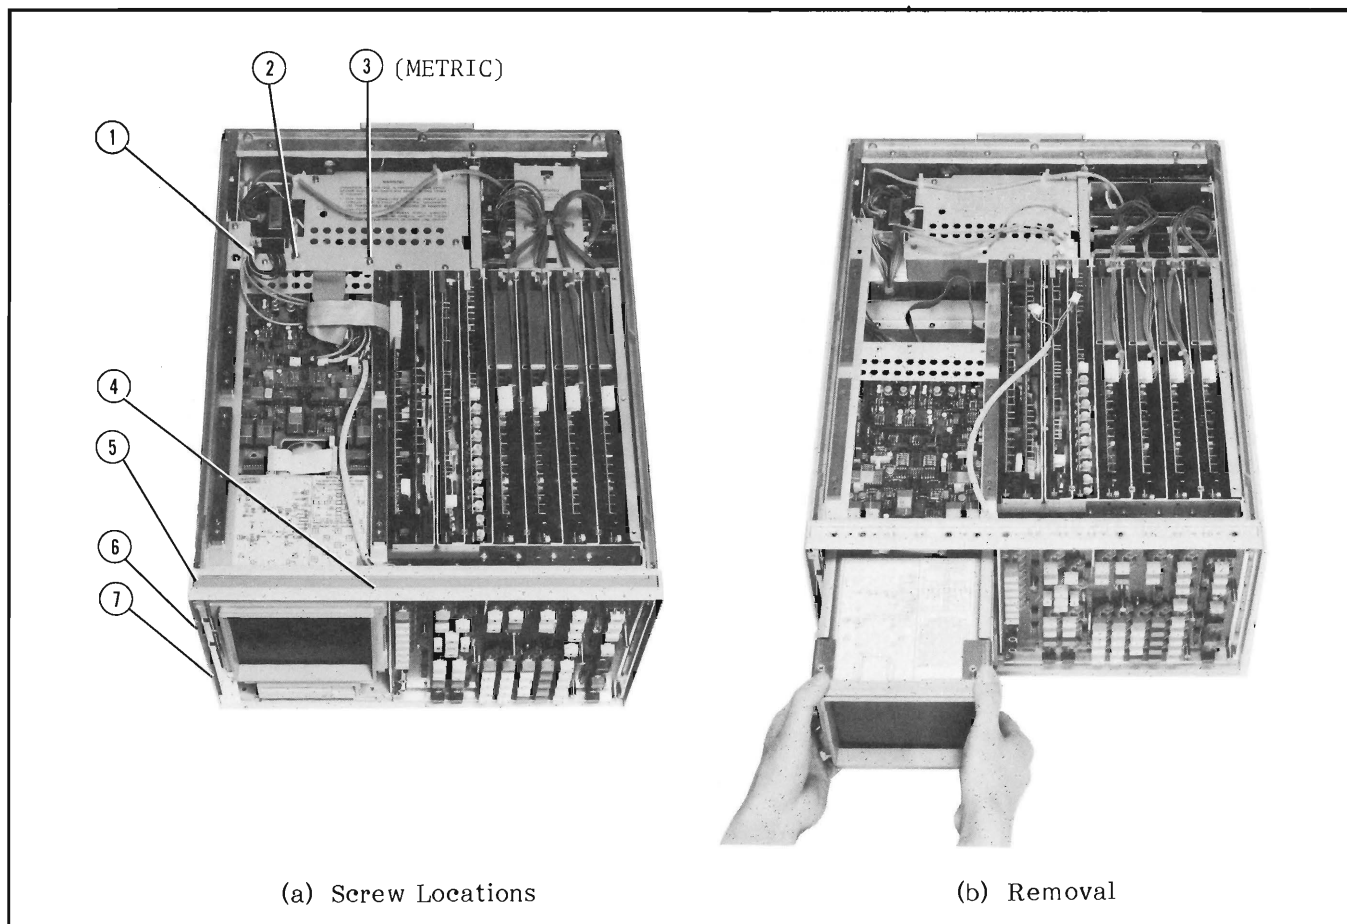

Figure 8-6. 1345A Removal.
- (1) Remove the top cover.
- (2) Remove the large shield plate.
- (3) Remove the front panel (refer to paragraph 8-25).
- (4) Remove screws ①, ② and ③. Refer to Figure 8-6 (a).
- (5) Carefully remove the plastic trim strip from the top of the front frame (use a screwdriver).
- (6) Remove the adhesive-backed trim strip from the left side of the front frame.
- (7) Remove screws ④, ⑤, ⑥ and ⑦. Refer to Figure 8-6 (a).
- (8) Disconnect the blue flat-cable from the A1 board, and disconnect the focus/intensity control cable and the X, Y, and Z analog output cables from the 1345A.
- (9) Carefully slide the 1345A about halfway out of the 4145B as shown in Figure 8-6 (b).
- (10) Disconnect the power cable connected to the rear of the 1345A and then slide the 1345A completely out of the 4145B.